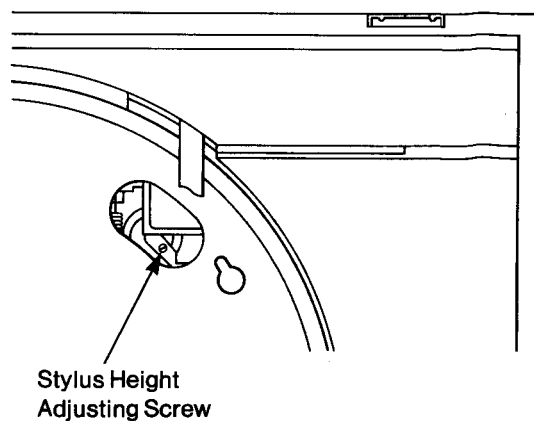

Fig. 4
3. Push the $\triangleleft$ button on the control panel and move the tonearm to the place where the stylus height adjustment screw can be observed. (Fig. 4)